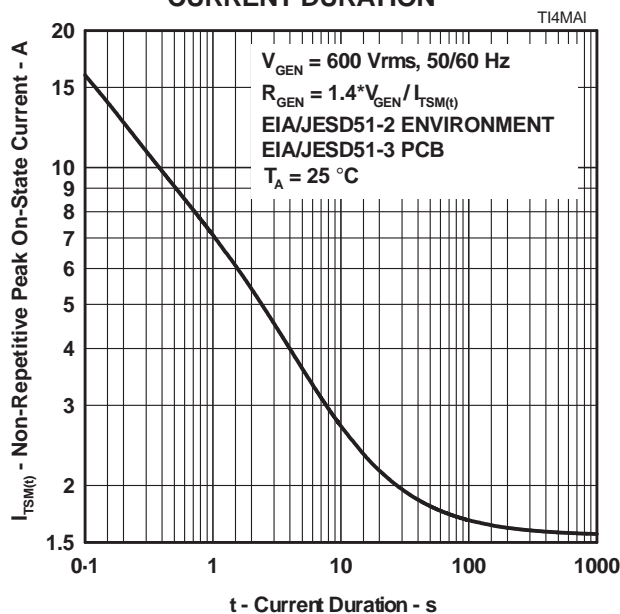

Figure 9.
5. EIA/JESD51-2 environment and EIA/JESD51-3 PCB with standard footprint dimensions connected with 5 A rated printed wiring track widths. See Figure 9 for the current ratings at other durations. Derate current values at  $-0.61\%/\text{C}$  for ambient temperatures above  $25^\circ\text{C}$ .
The protector can withstand currents applied for times not exceeding those shown in Figure 9. Currents that exceed these times must be terminated or reduced to avoid protector failure. Fuses, PTC (Positive Temperature Coefficient) thermistors and fusible resistors are overcurrent protection devices which can be used to reduce the current flow. Protective fuses may range from a few hundred milliamperes to one ampere. In some cases, it may be necessary to add some extra series resistance to prevent the fuse opening during impulse testing. The current versus time characteristic of the overcurrent protector must be below the line shown in Figure 9. In some cases, there may be a further time limit imposed by the test standard (e.g. UL 1459 wiring simulator failure).